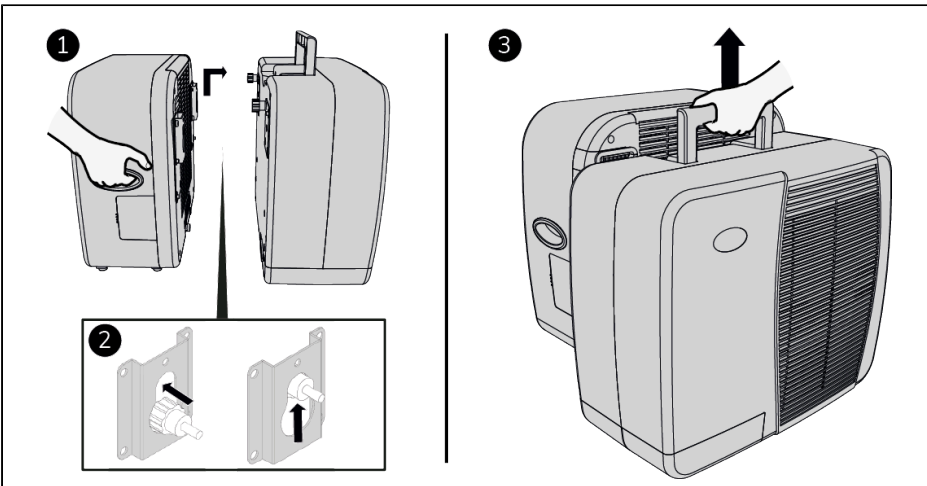

Figure 21.
5. Hook the indoor unit on the outdoor unit for easy transport (Figure 21).